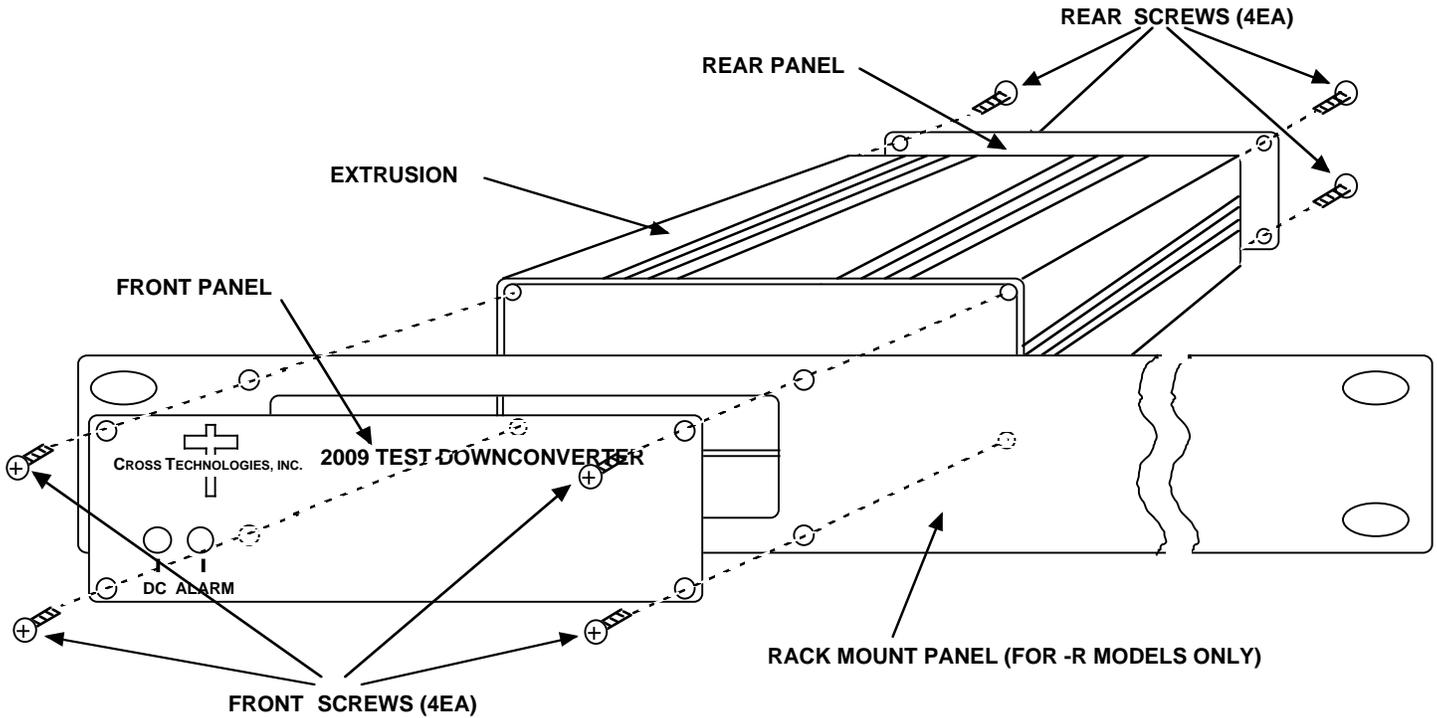

FIGURE 2.1 Model 2009-138 Assembly (-R option shown)
The 2009-138 is packaged in an aluminum extrusion. The **-R option** is mounted on a 1 3/4" X 19" panel that can be mounted to a rack using the 4 holes at the ends (See Figure 2.1).
2. Remove four (4) **rear panel screws** (see Figure 2.1).
5. Install four (4) **rear panel screws**.